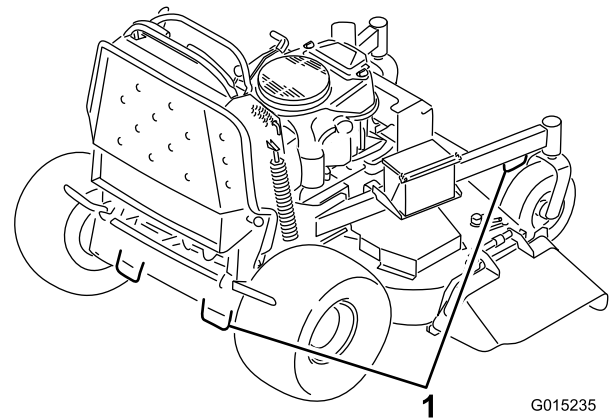

Figure 26
6. Use the metal tie-down loops on the machine to securely fasten the machine to the trailer or truck with straps, chains, cable, or ropes (Figure 26).